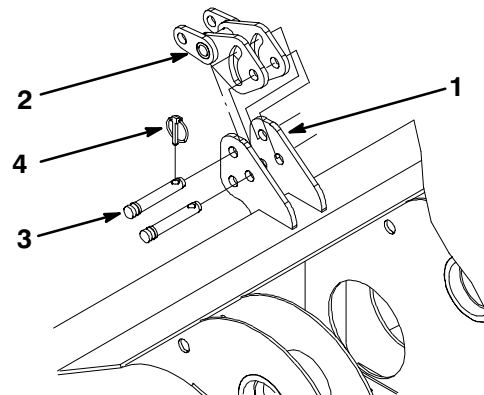

Figure 3
6. Mount the top link assembly to the aerator as illustrated in Figure 3, using 2 pins and lynch pins.